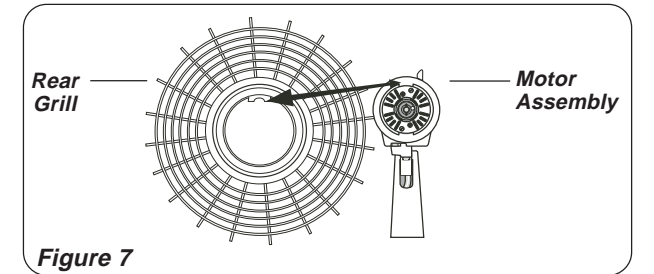

Figure 7
1. Tilt **Head Assembly** back. Put **Rear Grill** on Motor assembly. (**Figure 7**)